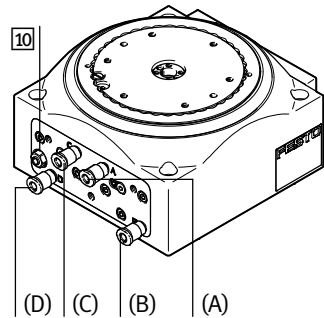

Fig. 10
Reciprocating operation must be controlled externally through an additional one-way flow control valve GRLA, Connection (C), Fig. 10 (→ www.festo.com/catalogue).